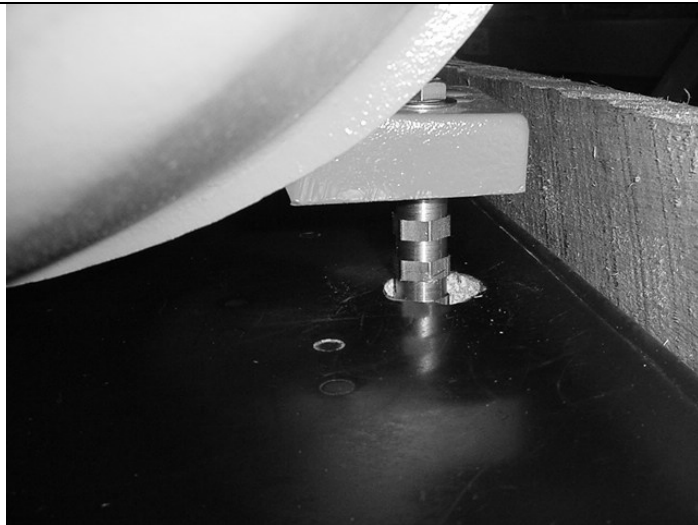

Figure 2
b) Use equipment as a template With the equipment to be mounted elevated above the base, fasten the insert(s) to the bottom of a bolt that is intended to mount the equipment down to the base. It is recommended that a provided nylon washer temporarily be installed between the bottom side of the equipment foot and the insert to insure the installed insert will recess below the top surface of the base (**Figure 2**).